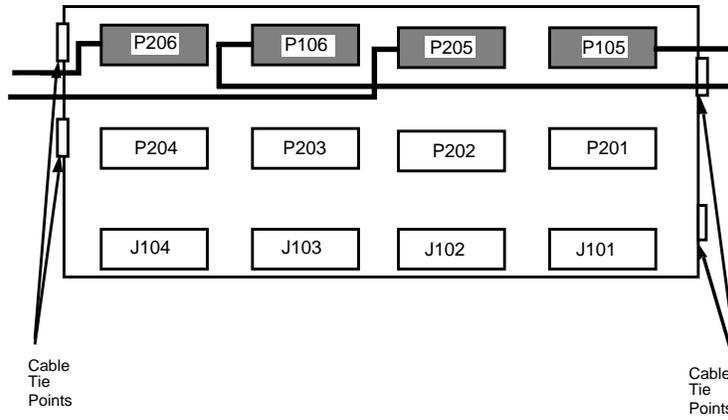

Figure 3-41. MDS E&M Cable Routing (J105 & J106, J205 & J206)
Step 3: Orient the mating cable connectors so that the customer cables exit upwards towards the cable racks. Refer to Figures 3-41 and 3-42.